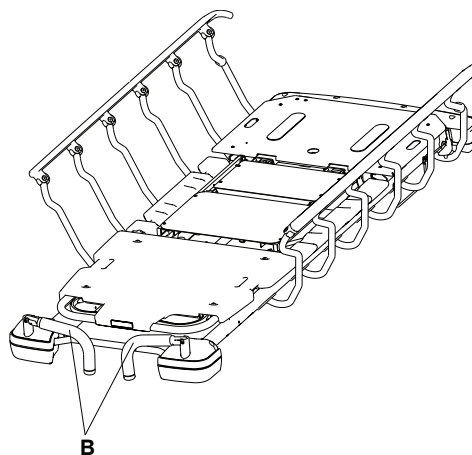

Figure 13 – Stowing the head end push handles
3. Reverse steps to stow the push handles (B) (Figure 13).